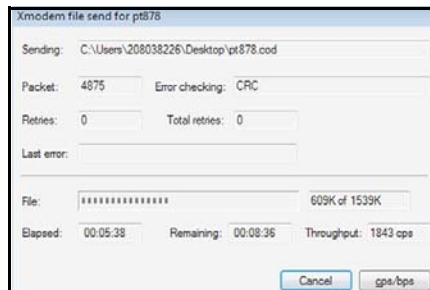

Figure 133: PT878 XModem File Send
4. In HyperTerminal, select the Transfer\Send File option and select the XModem protocol. Browse for the firmware file and select Send (see Figure 133 below).